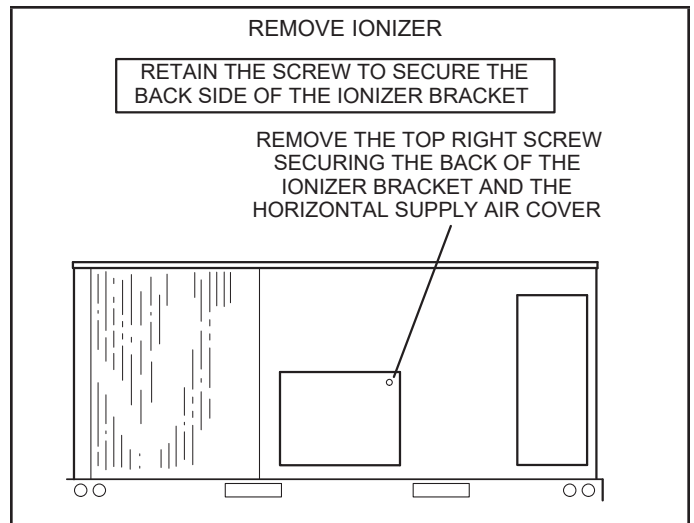

FIGURE 40
- 1 - On the back side of the unit, remove the screw securing the back of the ionizer bracket. See FIGURE 40. Retain the screw to secure the back side of the ionizer bracket.